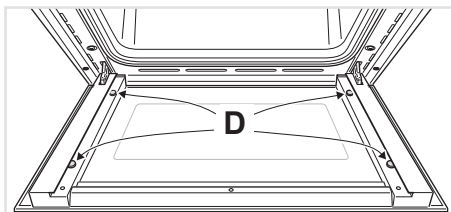

Fig. 8.11c
**IMPORTANT:** It is advisable, while removing the glass, to keep pressed in position the four rubber pads “D” (fig. 8.11c), by a finger, to avoid breakage or slippage of the rubber pads themselves.
1. Make sure the door is locked open (see fig. 8.11c).
- Check that the four rubber pads are in place ("D" in fig.8.11c).